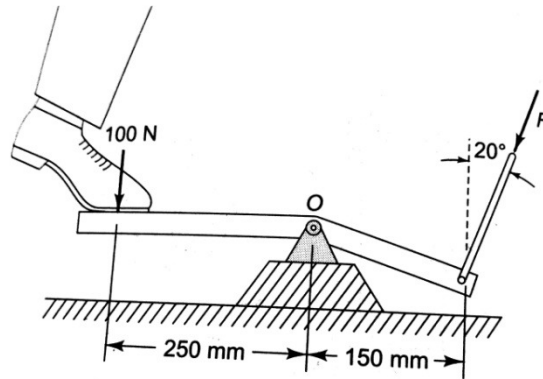

Figure 5
5. A 100 N force is required to operate the foot pedal as shown in figure 5. Determine the force (reactions at O) in the connecting link and the force (F) exerted by the lever on the bearing at O. Neglect the weight of the lever.